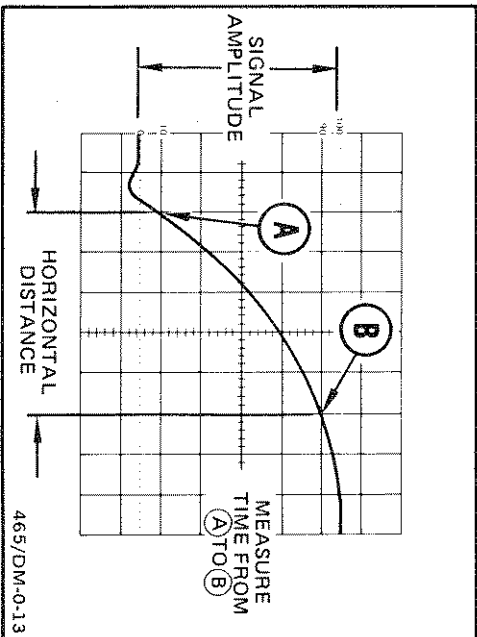

Figure 17. Rise time.
the 10% and 90% points on the leading edge of the waveform (see Figure 17). Fall time is measured between the 90% and 10% points on the trailing edge of the waveform.
of the waveform touches the 100% graticule line (see Figure 17).
7. Horizontally position the display so the 10% point on the waveform intersects the second vertical graticule line (see Figure 17, point A).
**EXAMPLE:** The horizontal distance between the 10% and 90% points is 5 divisions (see Figure 17), and the A SEC/DIV switch is set to 1  $\mu\text{s}/\text{division}$ . A magnification factor of 1 is used.